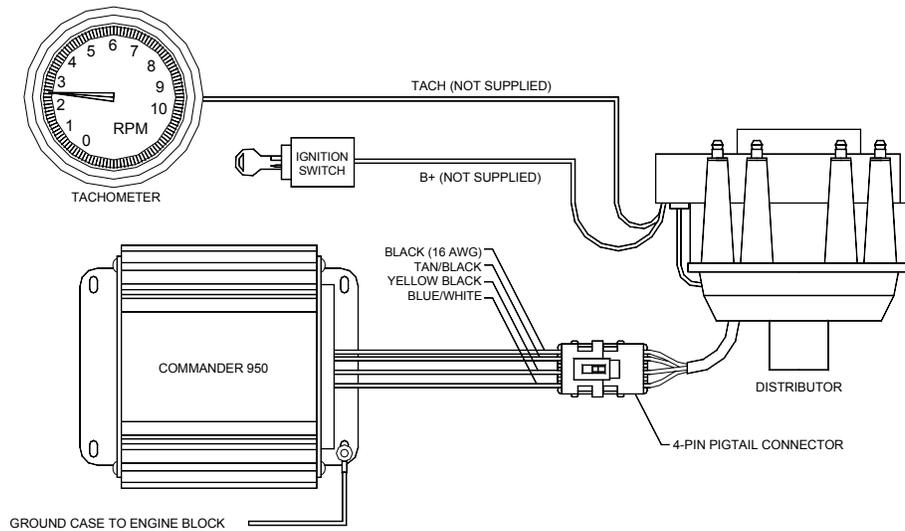

Figure 78
- Figure 78:** Commander 950 PRO to GM HEI Using Computer Controlled Distributor, 7-Pin Module.